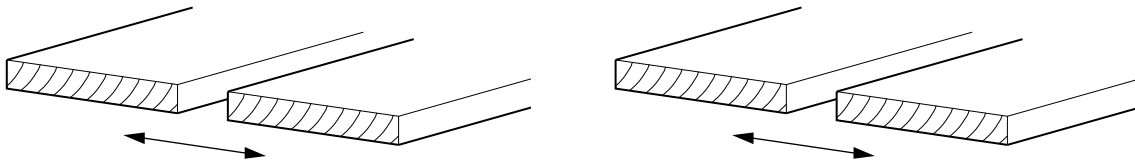

Fig. 3
- 6 Sketch **two** methods of joining wooden boards edge to edge as shown in Fig. 3.